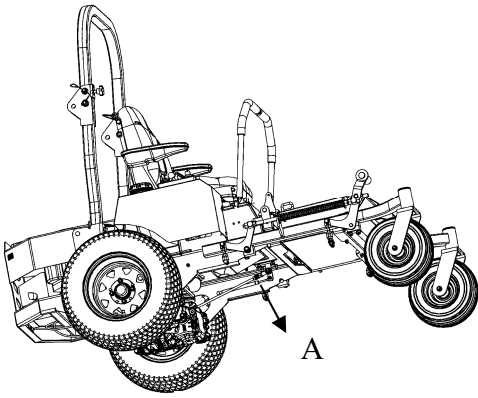
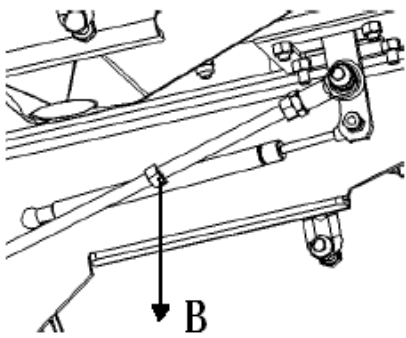

Fig. 20
Fig. 21
- If the left wheel need to be adjusted, locate the position A(Refer to Fig. 20) ,the more detail of the position A is shown as the Fig. 21.
- If the left wheel rotates clockwise (From the outside view see Fig. 21),turn the nut welded on rotating rod (Refer to the position B of Fig. 21)counterclockwise(from the direction of arrow ,see Fig. 21) until the wheel does not rotate.On the other hand,turn the nut clockwise.